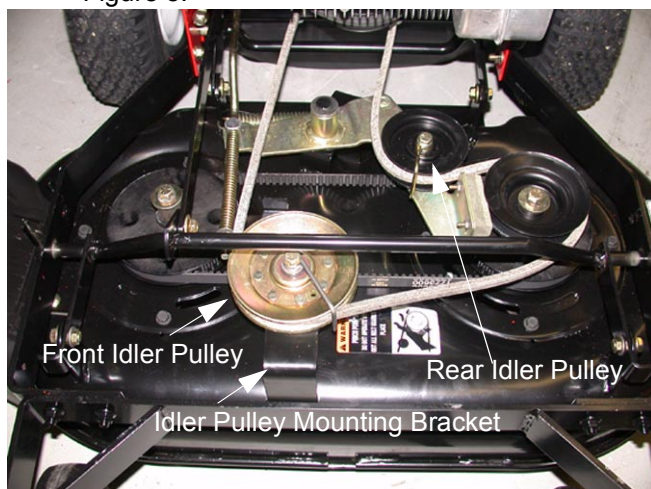

Figure 8
- 1.4. Using a 9/16 inch socket and opened end wrench, remove the front idler pulley to allow the belt to be removed from around the pulley. See Figure 8.
- 1.5. Using a 9/16 inch socket and opened end wrench, remove the rear idler pulley to allow the belt to be removed from around the pulley. See Figure 8.
**NOTE:** Maintain orientation of belt guides during reassembly. See Figure 8.
**NOTE:** If the blade drive belt slips during operation it may be necessary to slide the idler pulley forward in the slot on the idler arm. Loosen the hardware on the idler pulley and slide the pulley forward slightly. Tighten the hardware. See Figure 8.